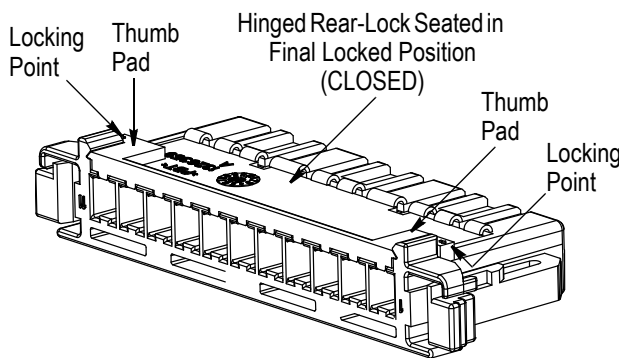

Figure 4
4. After all contacts have been inserted, rotate the hinged rear-lock; then, to close the hinged rear-lock, simultaneously press the two thumb pads (one with the right-hand thumb/finger and one with the left-hand thumb/finger) until the hinged rear-lock is seated in the final locked (CLOSED) position. Make sure both locking points have been seated. There will be audible feedback. See Figure 4.